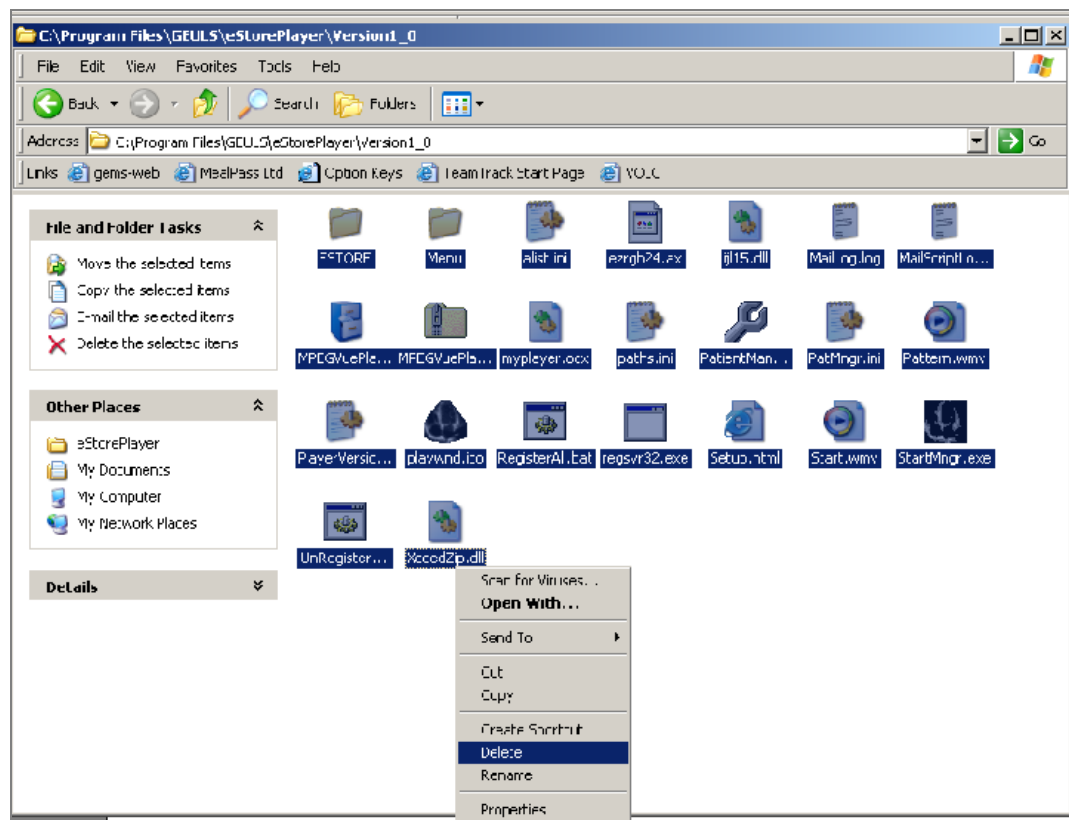

Figure 3-160 Deleting All Files
- 5.) From the **C:\Program Files\GEULS\eStorePlayer\Version1_0** folder, delete all files, as shown in Figure 3-160 on page 3-151.